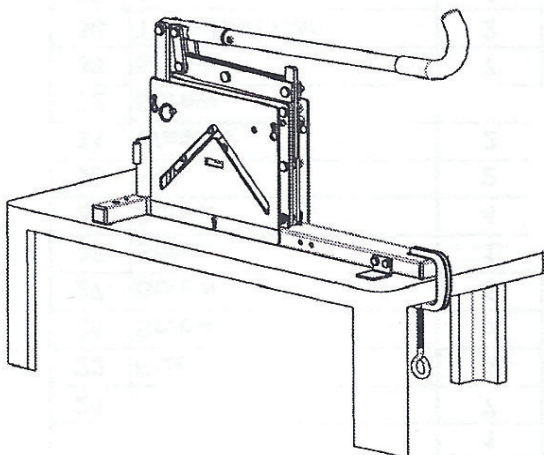

Figure 1
- b. Using C-Clamps (not provided).See Figure 1 Below.